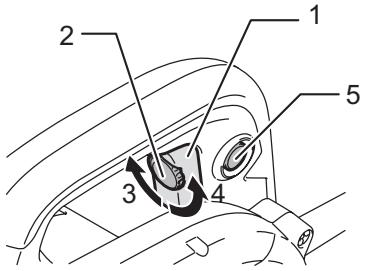

Fig.1
- Fig.1: 1. Switch trigger 2. Speed control screw